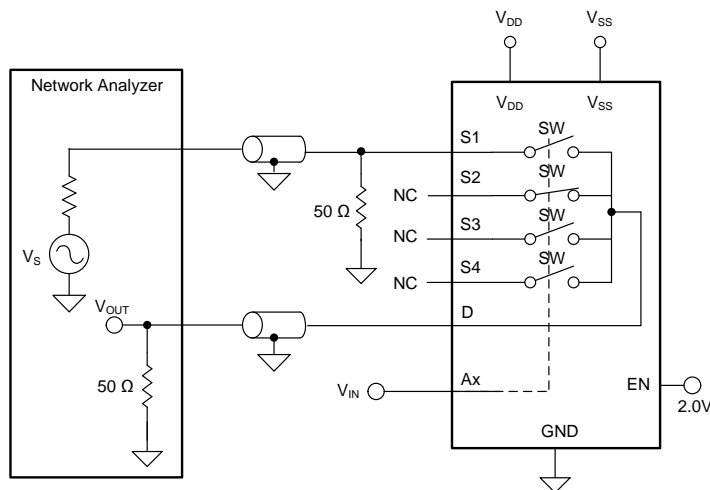

图 24. Off Isolation Measurement Setup
Off isolation is defined as the voltage at the drain pin (D) of the TMUX6104 when a 1-V_{RMS} signal is applied to the source pin (Sx) of an off-channel. 图 24 shows the setup used to measure off isolation. Use 公式 2 to compute off isolation.